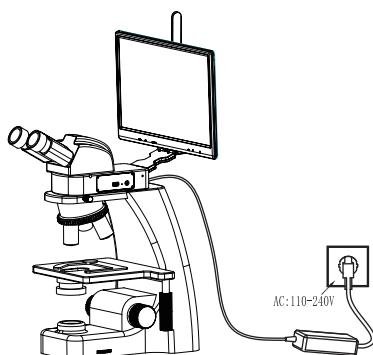

Figure 4
(4) The adapter interface is inserted into the power hole of the display screen, and then the adapter is connected to 110-240V AC power, as shown in Figure 4: